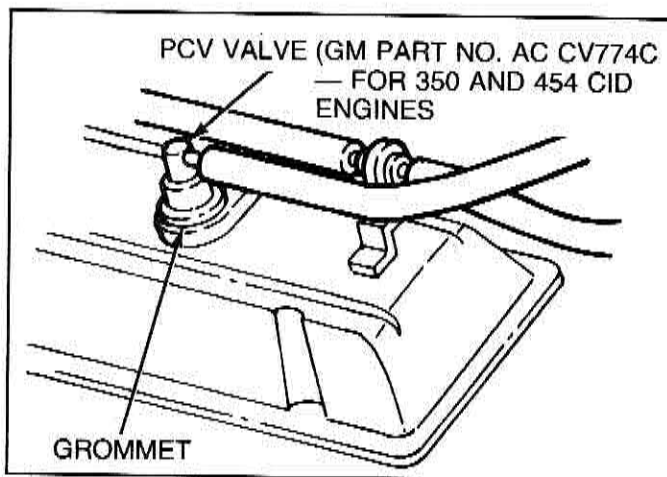

Figure 7-58 — PCV Valve
4. Shut off engine and remove PCV valve. Shake valve and listen for the rattle of check needle inside the valve. If valve does not rattle, replace valve (Figure 7-58). Remove PCV valve from rubber hose and look up the end of the hose using a flashlight. If the hose appears coated "oil wet," replace the PCV valve.